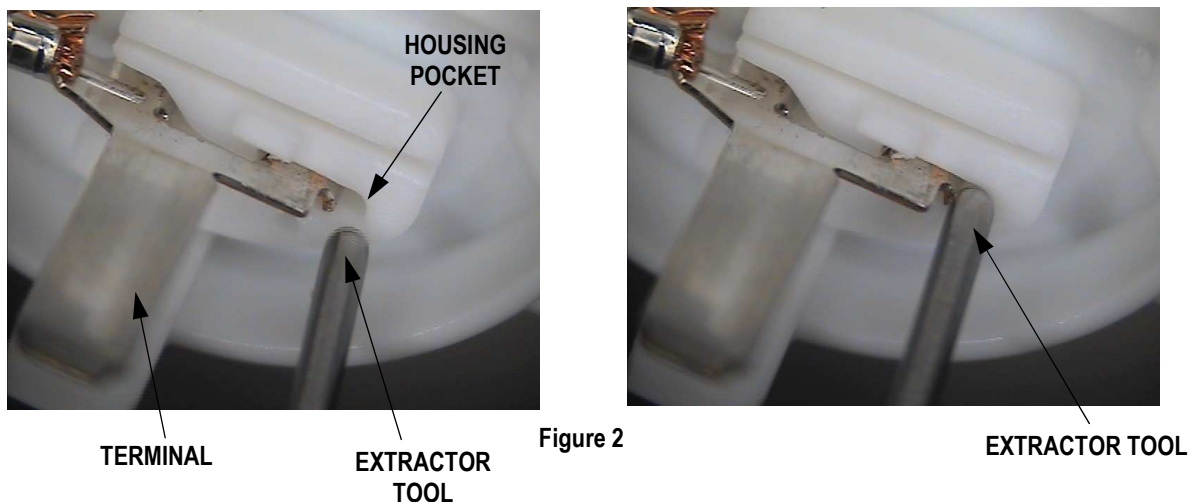

Figure 2
2. The Latch on the housing will open and then release the terminal. Pull the crimped terminal out by the wire in the direction shown. See Figure 2 and 3.